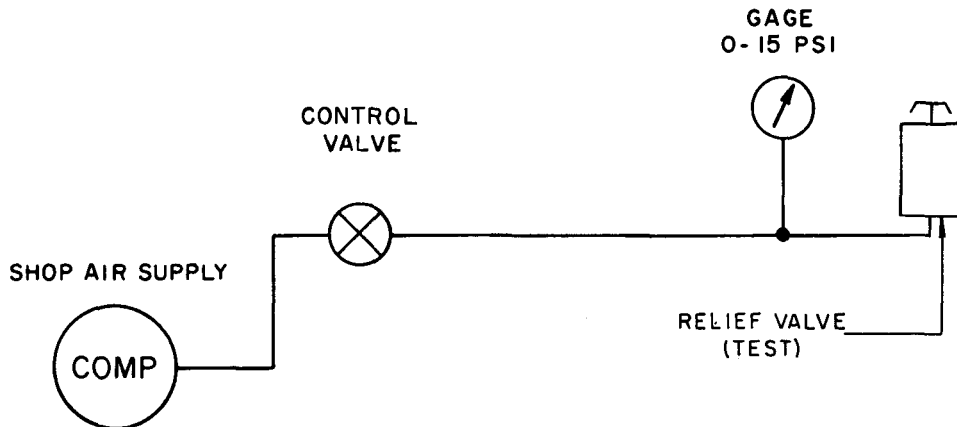

Figure 15. Pressure relief valve test setup.
*b. Testing* (fig. 15). Connect valve in air supply line together with pressure gage (0–15 psi). Apply air pressure slowly and check valve for correct cracking pressure of  $2.75 \pm .5$  psi.